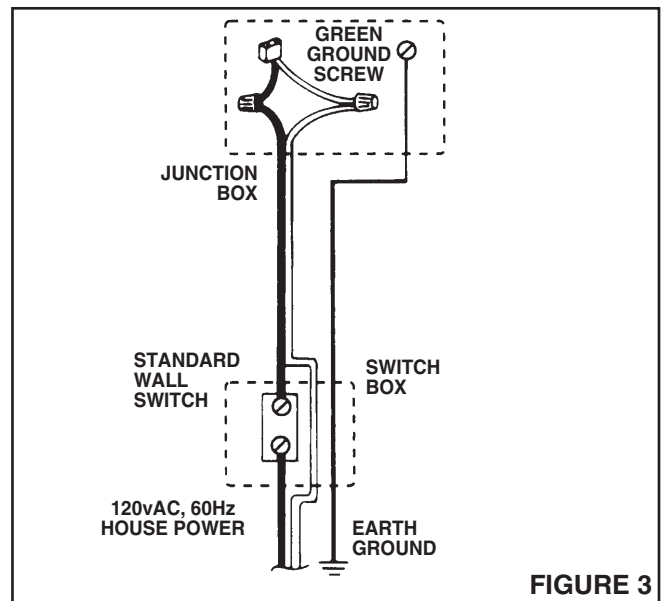

FIGURE 3
4. Refer to Figure 3. Run 120vAC, 60Hz power wiring from wall switch to ventilator housing. Remove the housing junction box cover and connect wires from wall switch to receptacle wires, using wire connectors - white to white, black to black. Use a box connector on junction box. Connect earth ground to green screw in junction box. Replace junction box cover.
2. Refer to Figures 1 and 2 for duct work and Figure 3 for wiring.